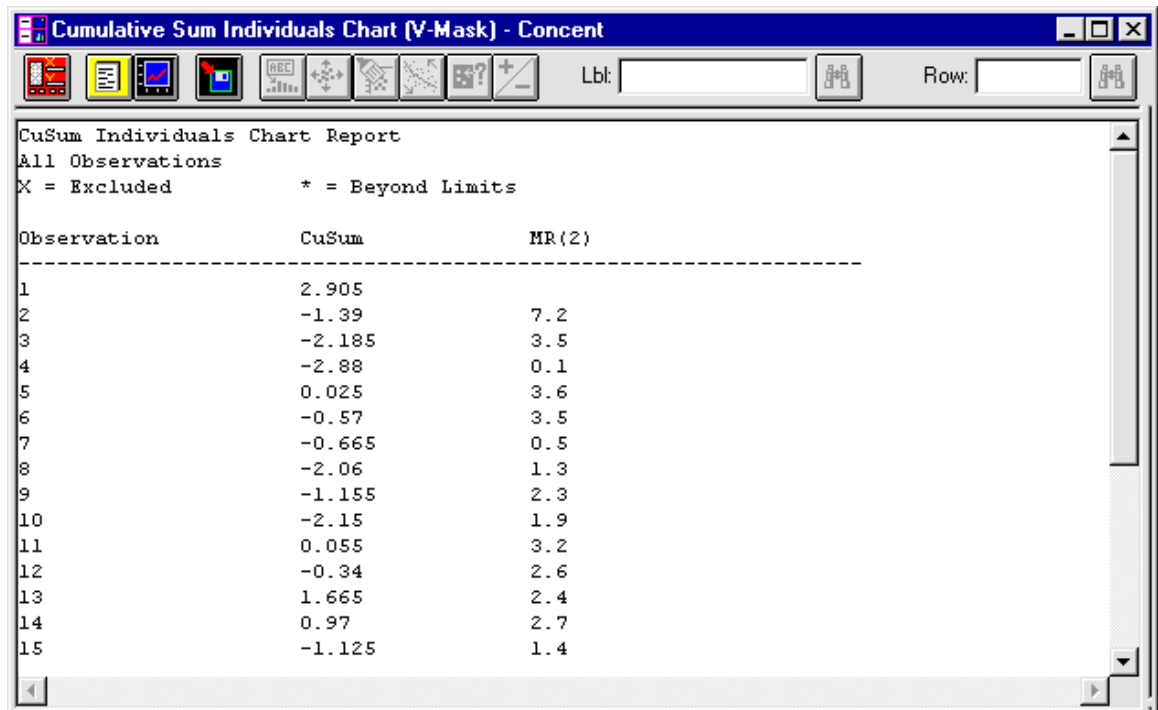

Figure 2-3. Cumulative Sum Individuals Chart (V-Mask) Report
3. Click the Tabular Options button to display the dialog box, then click the CuSum Individuals Chart option, and OK to display the report. Maximize the report (see Figure 2-3).